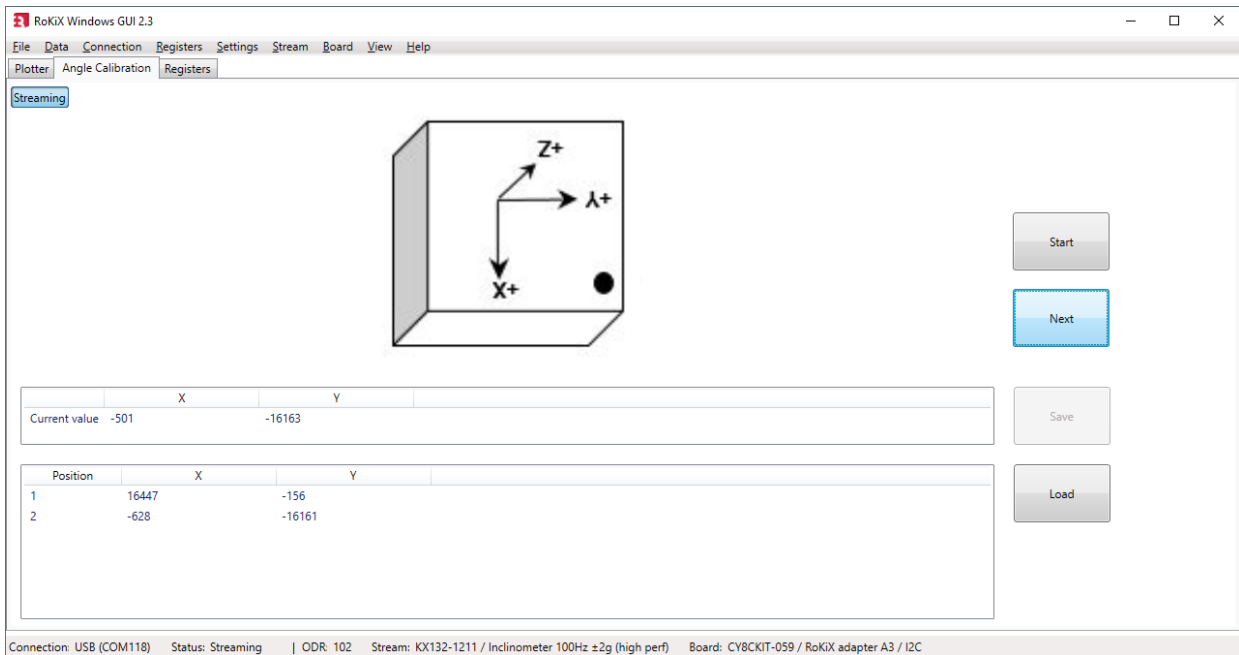

Figure 46. Angle Calibration. Position - 3
- Click Next and hold the device still until the diagram changes to the 3rd position (Figure 46)